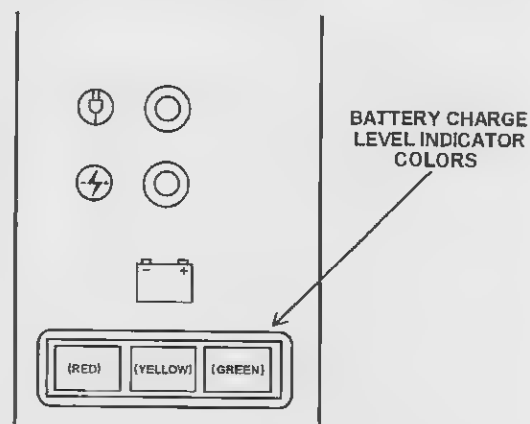

Figure 2-11. Battery charge level indicator colors.
- b. Ensure that the battery has an adequate charge prior to setup by observing the battery charge level indicator (fig 2-11). Do not begin a surgical procedure if the battery charge level indicator light is in the yellow or red zone. The APS console may be connected into an electrical power wall receptacle during surgery to maintain or increase the charge level of the battery.